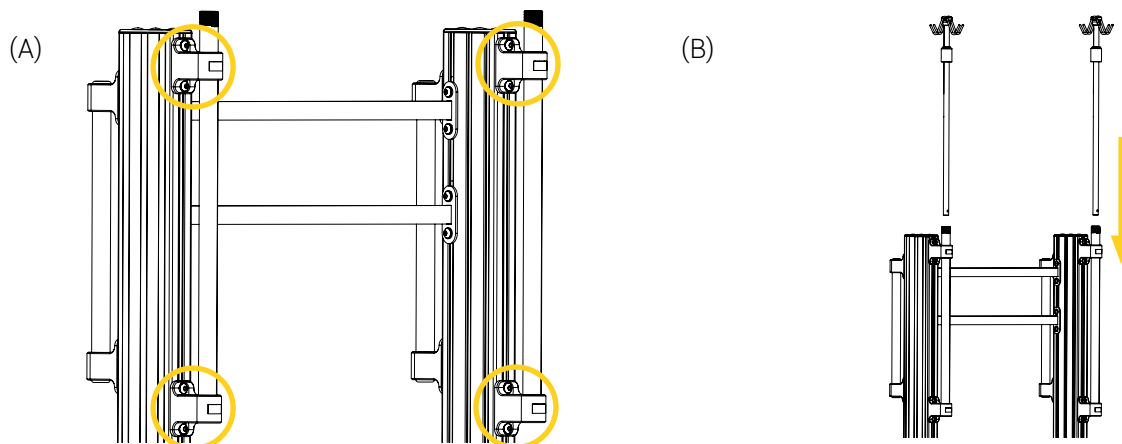

Figure 6: Installation of the IV poles
1. Remove the four (4) screws on each IV pole bracket (Figure 6 A).
2. Insert an IV pole in each bracket (Figure 6 B), then rotate the collars clockwise to tighten, ensuring the IV poles are secured.